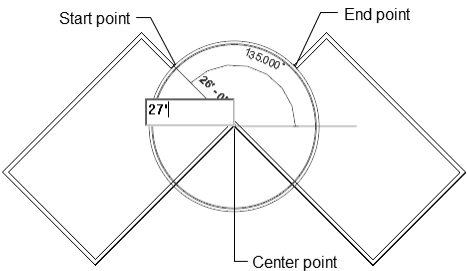

Figure 3-46 Starting the curved wall segment
- g. Use the **Center-ends Arc** sketching option to create the curved wall, refer to Figures 3-46 and 3-47.
1. Choose the **Center-ends Arc** button in the **Draw** panel from the **Place Wall** tab of the ribbon. Move the cursor in the drawing window and click on the outer intersection of the inclined walls to specify the center of the curved wall. Refer to Figure 3-46.
2. Move the cursor near the endpoint of the last sketched inclined wall segment. When 135-degree is displayed as the angular dimension, enter the value **27'0"** as the radius of the curved wall, as shown in Figure 3-46. The curved wall with the specified radius starts from the specified point.